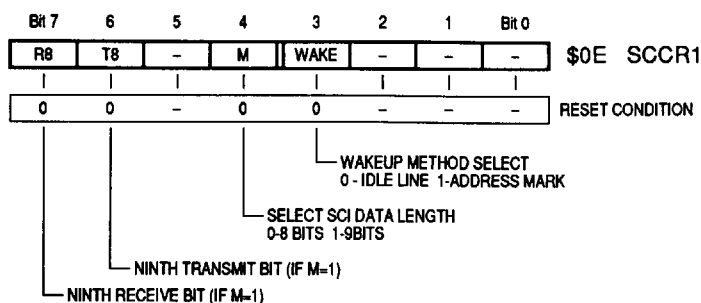

Figure 3-19. Serial Communications Control Register One
3.6.3.2 SERIAL COMMUNICATIONS CONTROL REGISTER ONE (SCCR1). The serial communications control register one (SCCR1) shown in Figure 3-19 includes three bits associated with the optional 9-bit data format. The WAKE bit is used to select one of two methods of receiver wakeup. Normal setup for bit M is 0 for 8-bit words. The other register bits are not used in most systems. In a typical system, this register would be written to \$00 during initialization.